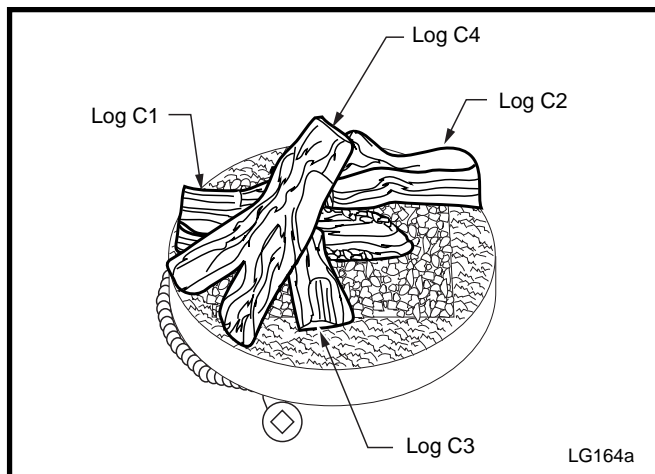

Fig. 13 Logs C3 & C4 placement.
- Place logs C3 and C4 with flex line on your left. C3 fits just under angle of log C2. (Fig. 13)